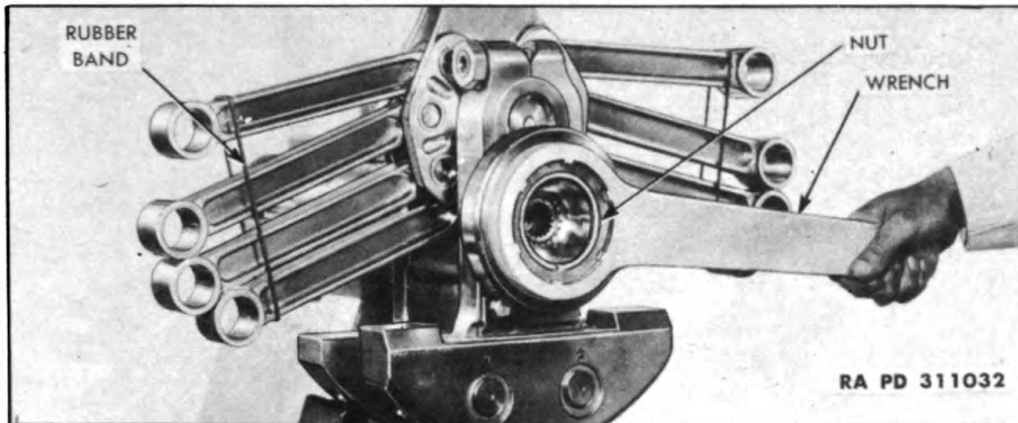
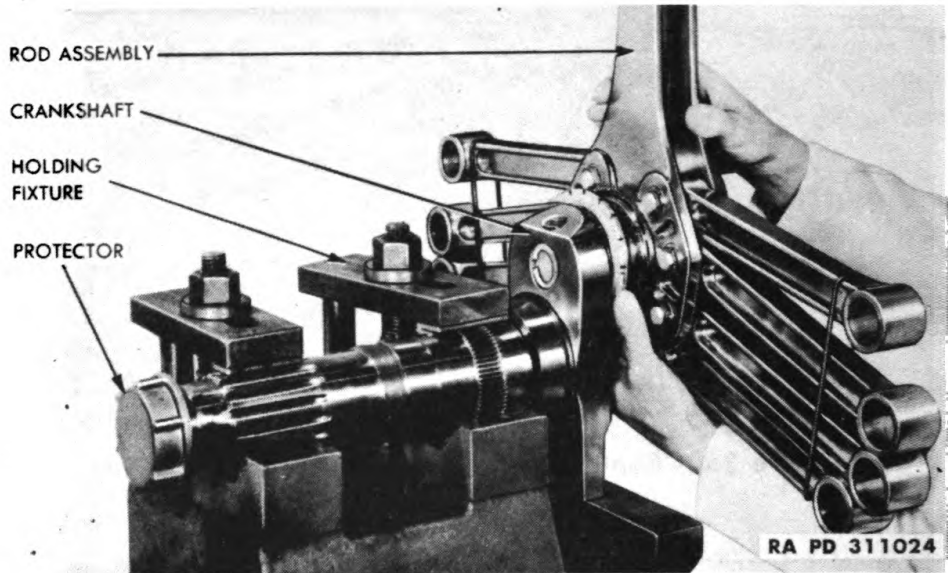

Figure 38 — Removing Crankshaft Rear Bearing Nut, Using Wrench 5A2303
Figure 40 — Removing Rod Assembly, Using Fixture 5A2296 and Protector 5A2342
(1) **MOUNT IN FIXTURE.** Install crankshaft in assembly and disassembly fixture (5A2296) with counterweights in downward position. Tighten two clamps on fixture to hold crankshaft firmly in fixture (fig. 40).
(2) **REMOVE REAR MAIN BEARING.** Remove crankshaft rear main bearing nut lock screw and locking tab. Remove nut using lug wrench (5A2303) (fig. 38). Remove rear main bearing, outer race, and rollers from inner race.
(6) **DISASSEMBLE MASTER AND ARTICULATED RODS.** Remove master rod end seal spacer. Check rear end of crankpin to insure that no nicks or burrs are present to scratch or score master rod bearing upon removal of master rod and articulated rod assembly. Remove any nicks or burrs by stoning and polishing. Grasp two groups of articulated rods, one on each side of the master rod and remove master rod and articulated rod assembly from crankpin (fig. 40). Remove end seal disk and spring (fig. 40).
(a) *Install Master Rod Assembly.* Wash crankpin with dry-cleaning solvent, dry in air blast, and lubricate freely with clean engine oil. Lubricate inside diameter of master rod bearing with clean engine oil. Hold master rod in a vertical position and group four articulated rods on either side of master rod together, holding each group of rods together with a heavy rubber band (fig. 38). Install master and articulated rod and end seal assembly on crankpin (fig. 40)
(5) **INSTALL REAR MAIN BEARING.** Heat rear main bearing inner race for 10 minutes in an oil bath maintained at a temperature of 225°F. (107°C.), and install on crankshaft rear extension. Insure that lip of outside diameter of inner race is facing toward crankshaft rear cheek. Tap rear end of inner race after installation to insure that it is bottomed on shoulder of crankshaft rear. Install crankshaft rear main bearing outer race, retainer and rollers on inner race. Insure that side of outer race marked "Propeller End" is facing toward crankshaft rear cheek. Install crankshaft rear main bearing nut and tighten, using wrench (5A2303) (fig. 38), lining up one of the tapped holes in nut with one of the drilled holes in crankshaft rear extension. Install a new tab lock and rear main bearing nut locking capscrew. Tighten lock screw and bend up tab lock.